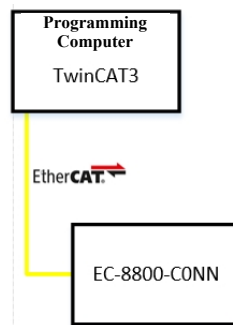

Fig. 5-1-1 Communication Link Diagram
1. See Fig. 5-1-1 for the communication link diagram.